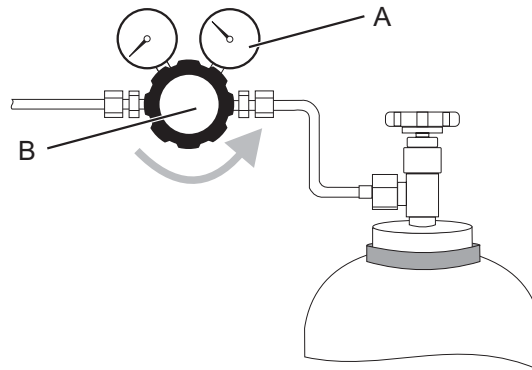

Figure 26: Checking gas cylinder pressure, closing pressure regulator
1. Check the pressure gauge (see Figure 26, A) indicating the pressure in the premix gas cylinder to ensure that there is a remaining cylinder pressure of at least 5 bar (abs.).
2. Turn the valve on the premix pressure regulator (see Figure 26, B) counter-clockwise to its stop, according to the manufacturers instructions, to ensure that the pressure regulator is closed.